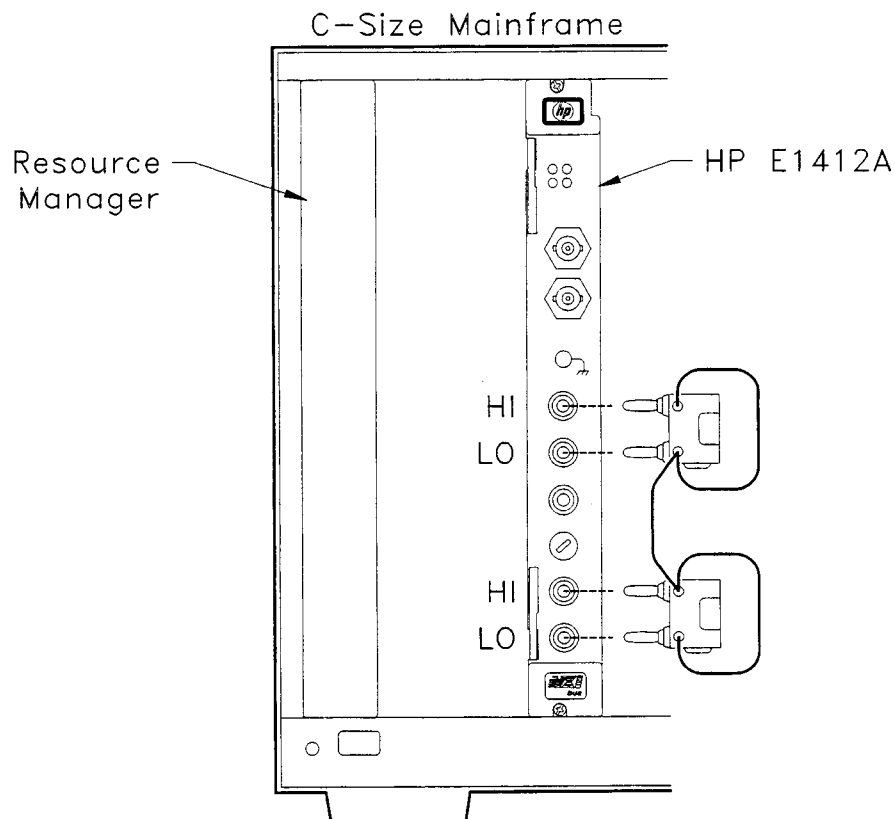

Figure 5-2. Zero Adjustment Test Setup.
1. Connect a 4-wire low thermal short across the HI and LO input terminals and HI and LO Sense terminals of the HP E1312A or HP E1412A (Figure 5-2).